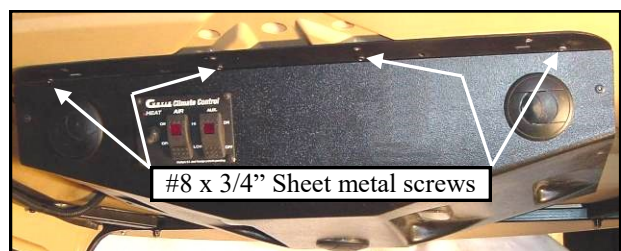

Figure 2.4 (view forward from center of seat)
2.4 With the back of the heater unit still supported, install four #8 x 3/4" long sheet metal screws through the four holes shown in fig. 2.4 and into the ribs in the roof. CAUTION: these thread into plastic. Do not over-tighten. Over-tightening may damage the plastic threads and cause them to strip out.